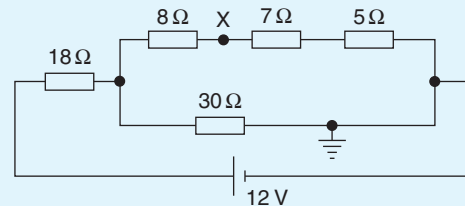

Figure 5.52
2. For the circuit shown in Fig. 5.52, calculate (a) the voltage drop across the  $7 \Omega$  resistor, (b) the current through the  $30 \Omega$  resistor, (c) the power developed in the  $8 \Omega$  resistor, (d) the voltage at point X w.r.t. earth and (e) the absolute voltage at point X.